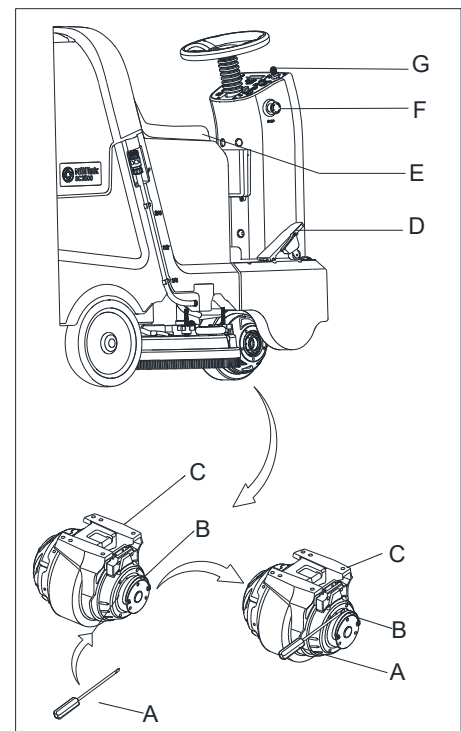

Figure 11
1. Turn the key switch (G Figure 11) to “ON”
2. Depress the accelerate pedal (D Figure 11) slightly then loosen it to check if the machine can be steered forward and stopped.
3. To ensure the security, confirm if the machine can be stopped immediately by pressing the emergency button (F Figure 11). Rotate the emergency button to reset it.
The brake of drive motor is unstuck when the motor works normally, it locks when the motor stops working. In some special cases, such as machine packing/unpacking, machine fault etc., need to move the machine without drive motor working, please insert A screwdriver (Figure 11 A) drive motor brake (Figure 11 B) and motor (Figure 11 C) between the grooves (Figure 11), the machine brake is released, the machine can be moved, after completion, please take out the screwdriver, otherwise will not be able to start the machine.